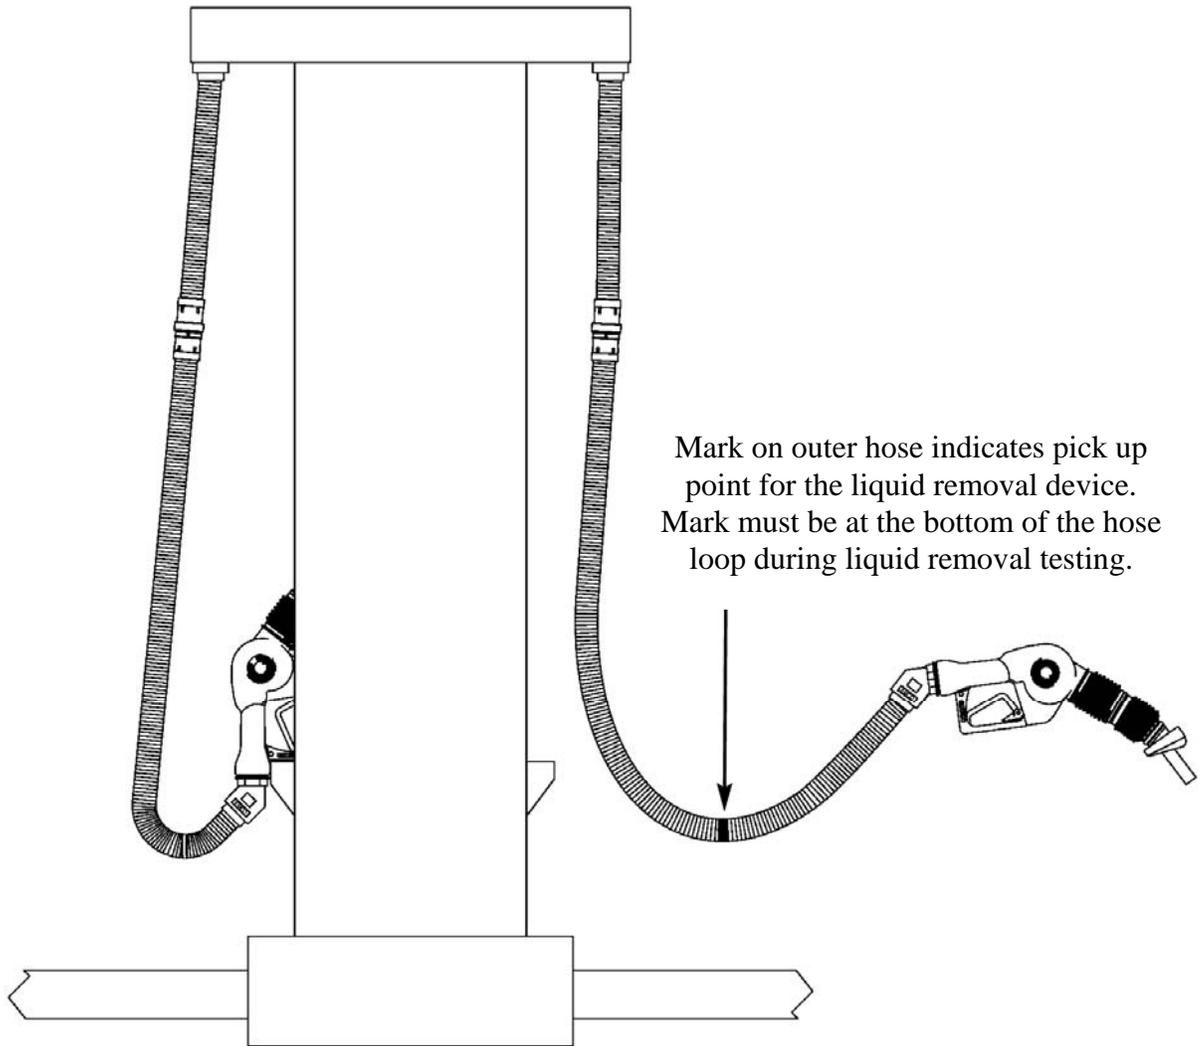

FIGURE 2
- 5.1. Nozzle Spout Plug: Use Emco's spout plug, P/N 494635EVR (Figure 2).
- 6.2 Remove the nozzle from the dispenser. **Do not activate dispenser!** Install Emco's spout plug, P/N 494635EVR in the tip of the spout (Figure 2). Carefully tilt the spout into the funnel/graduated cylinder assembly.
- 7.2 Remove the nozzle from the dispenser. **Do not activate dispenser!** Install Emco's spout plug, P/N 494635EVR in the tip of the spout as shown in Figure 2. Position the nozzle upright so that the spout is in a vertical position.